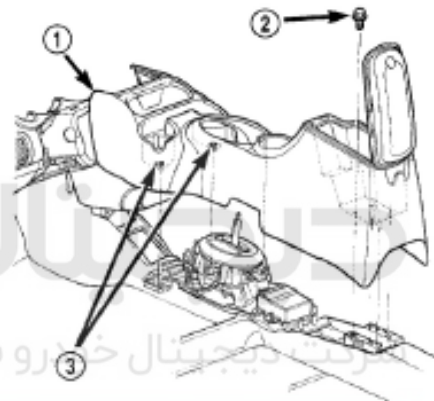

Figure 3-108 Auxiliary fascia console assembly
(4) Remove auxiliary fascia console assembly (Figure 3-108).
- (11) Adjust the switching cable in the following process:
(12) Install the center console assembly (Figure 3-108) and confirm that the dust cover is not pressed on the opening of center console before fixing it.